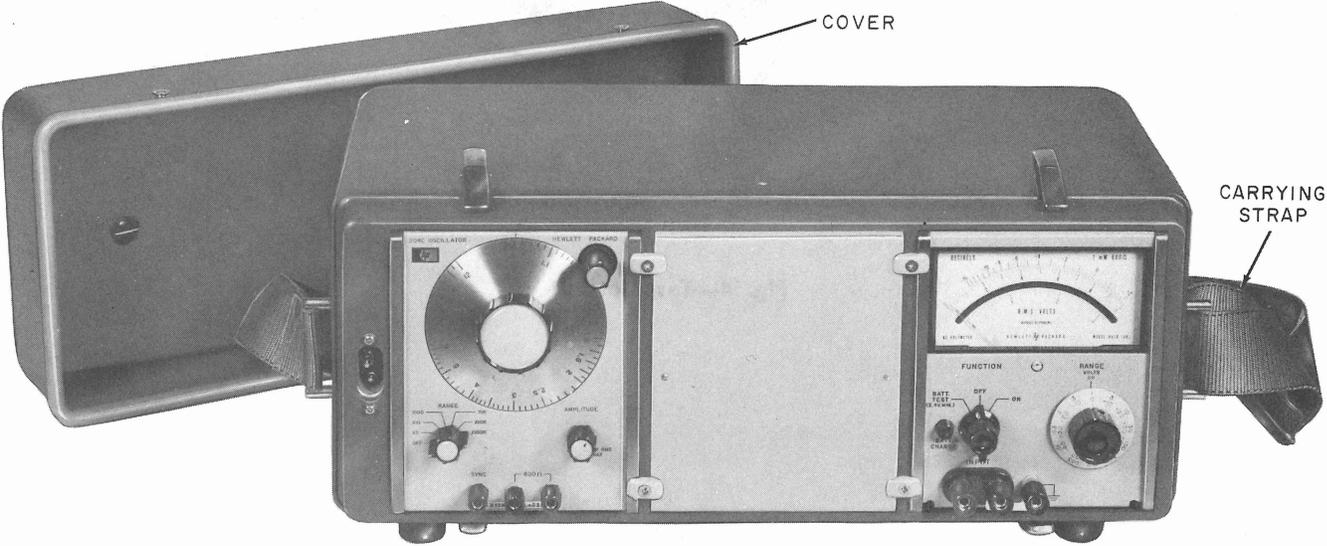

Fig. 3—HP C07-3550B Test Set
- (3) One Hewlett-Packard C07-3550B Transmission Test Set (Fig. 3)